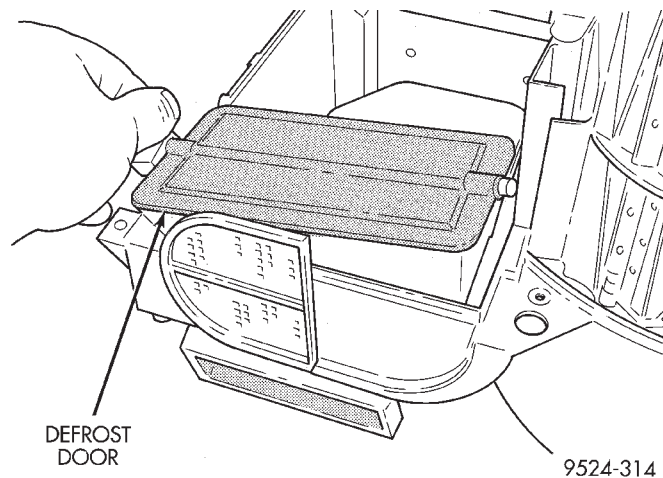

**Fig. 107 Defrost Door Removal**
(37) Remove defrost door from housing (Fig. 107).